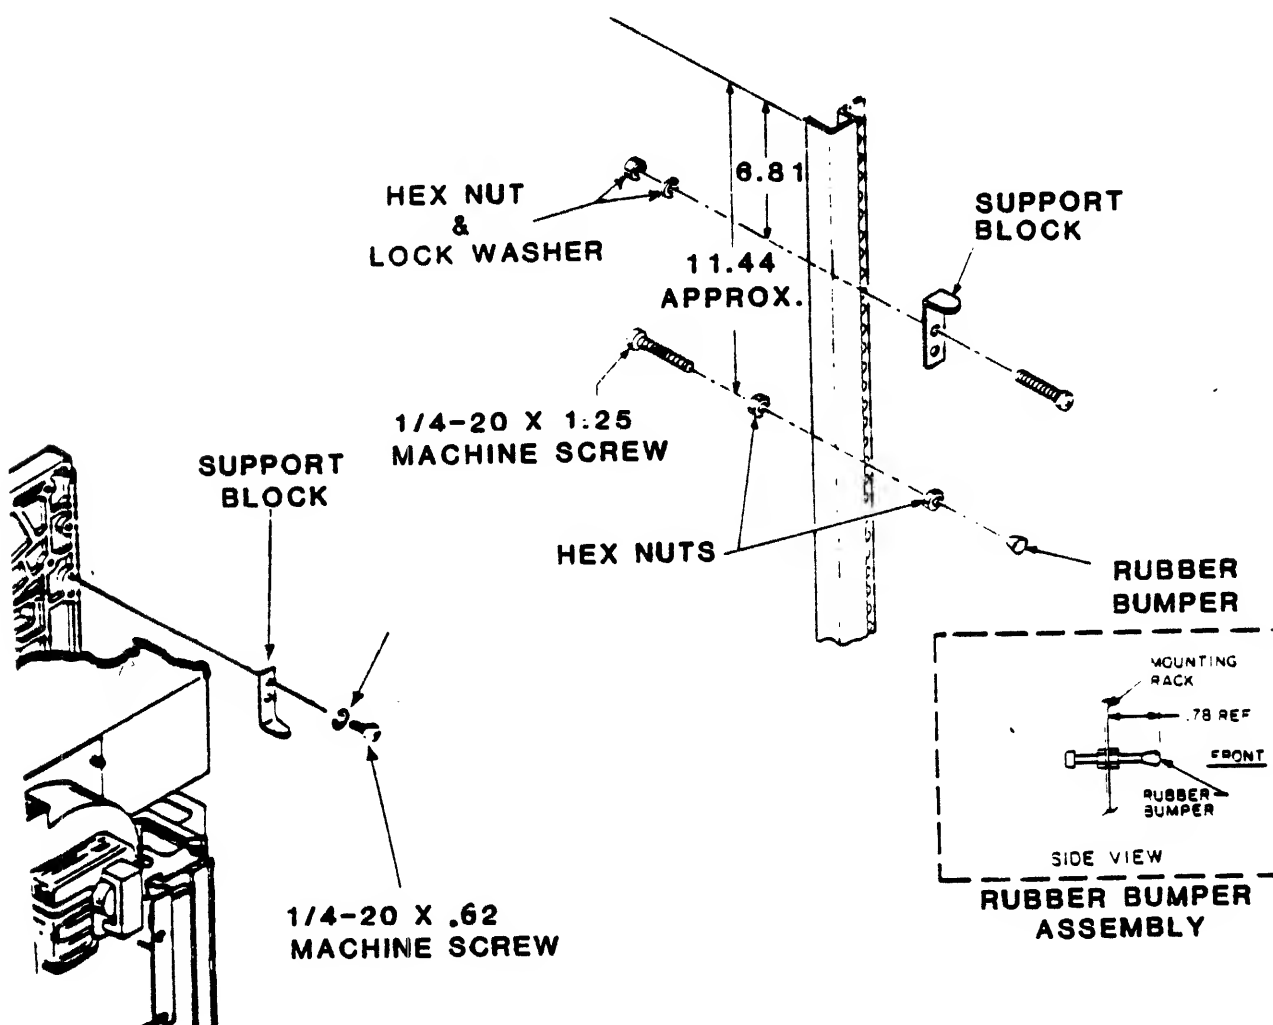

Figure 3-12. BUMPER ASSEMBLY AND SUPPORT BLOCK INSTALLATION
6. With STU in open position, install bumper assembly (Figure 3-12) into mounting rail approximately one to two inches above point at which pawl fastener contacts mounting rail.
8. Install support block to the rear of the STU tape deck on the left side (Figure 3-12), and secure with 1/4-20 x 0.62 inch long machine screws and lockwashers.
9. With the STU in an open position, attach one support block to the left mounting flange on the rack (Figure 3-12) and secure with two 1/4-20 x 0.88 inch long machine screws, lockwashers, and hex nuts.